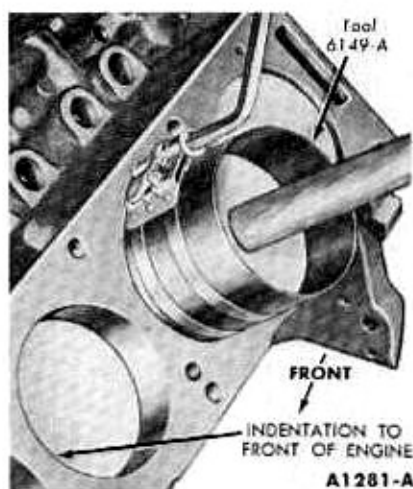

FIG. 40—Piston Installation
5. Install a piston ring compressor on the piston and push the piston in with a hammer handle until it is slightly below the top of the cylinder (Fig. 40). Be sure to guide the connecting rods to avoid damaging the crankshaft journals. Install the piston with the indentation in the piston head toward the front of the engine. When installed, the bearing lock slots in the connecting rod should be toward the outside of the engine.